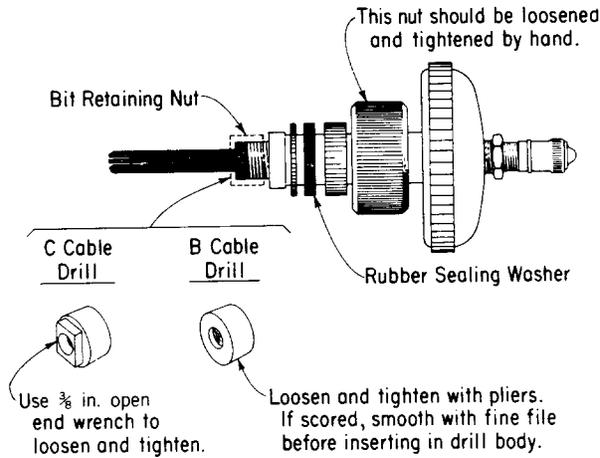

Fig. 4 — Replacing Bit for B and C Cable Drills
4.02 Each bit is double-ended and may be reversed when worn, by disassembling the tool as illustrated in Fig. 4 and 5. The bits for these drills are not interchangeable.